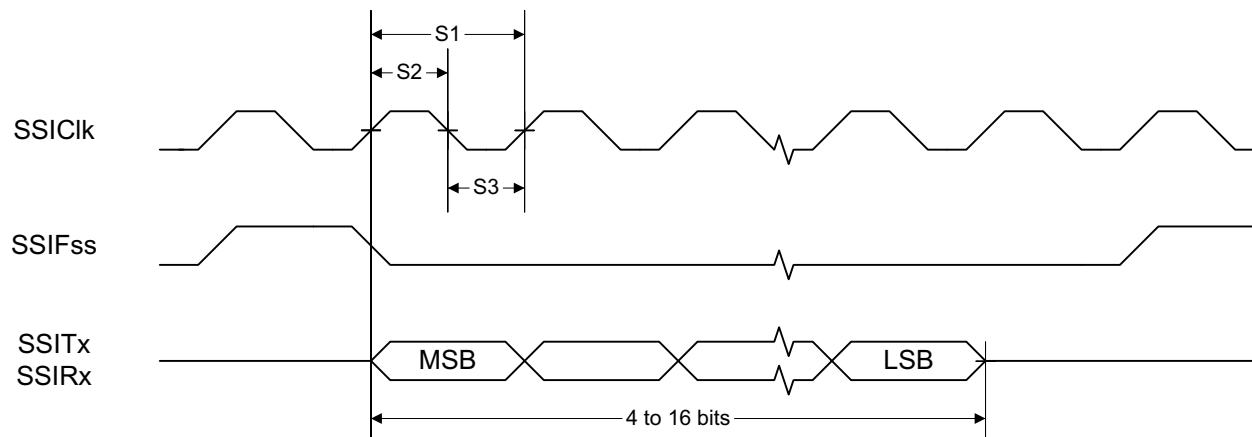
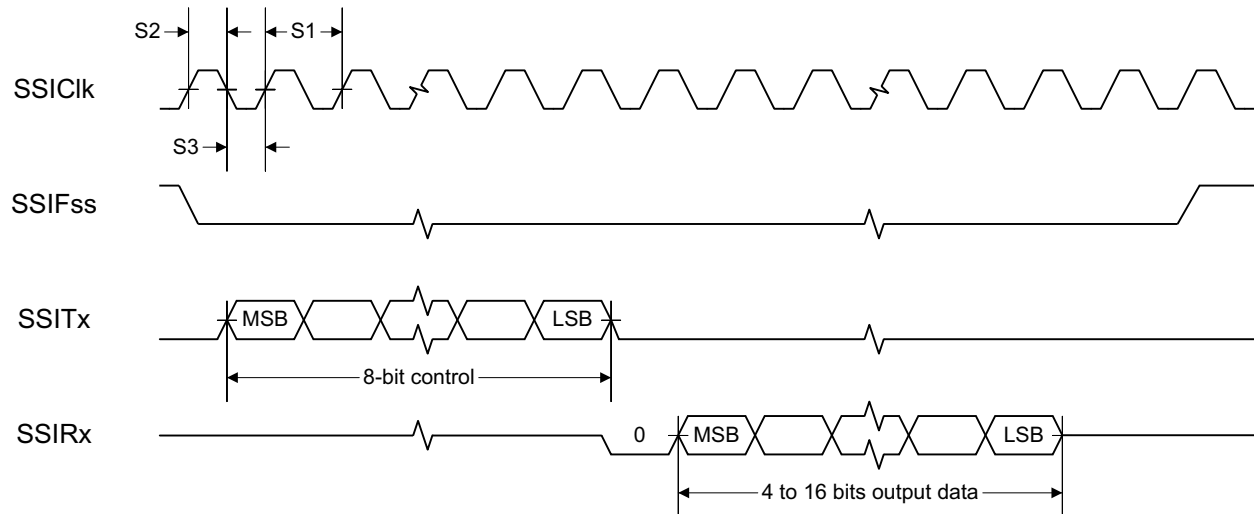
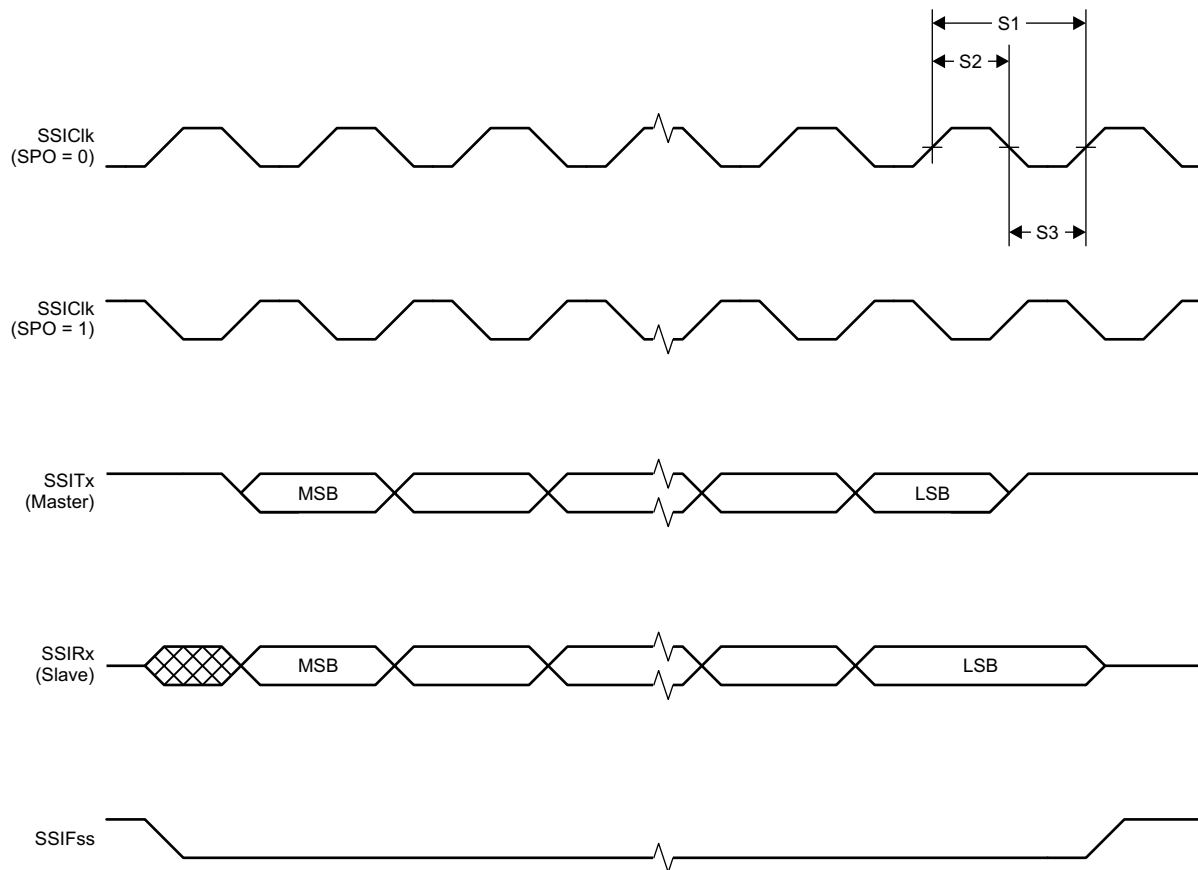

Figure 5-1. SSI Timing for TI Frame Format (FRF = 01), Single Transfer Timing Measurement
Figure 5-2. SSI Timing for MICROWIRE Frame Format (FRF = 10), Single Transfer
Figure 5-3. SSI Timing for SPI Frame Format (FRF = 00), With SPH = 1
(1) See the SSI timing diagrams, Figure 5-1, Figure 5-2, and Figure 5-3.